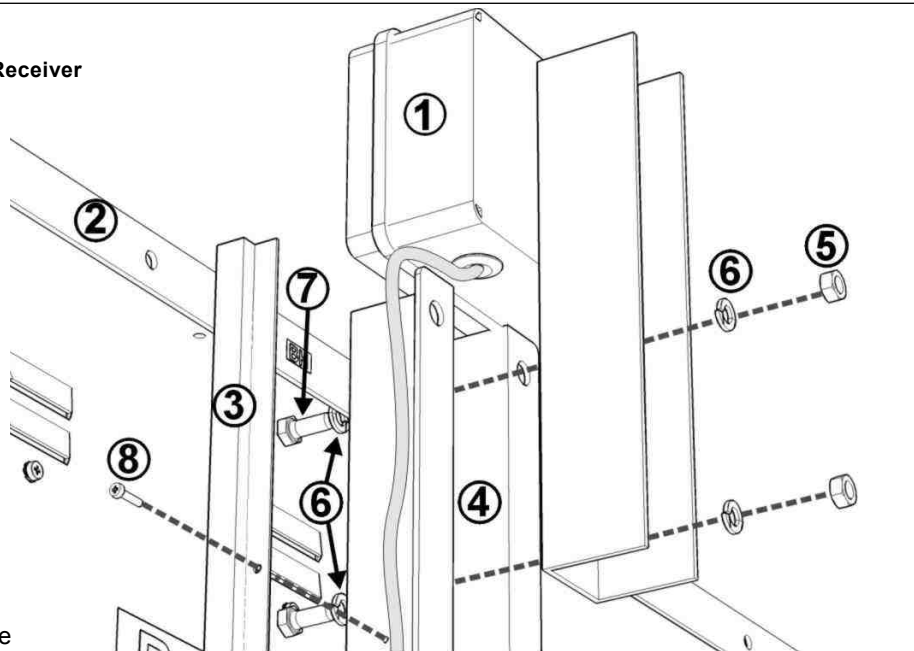

Fig. 3: Detail of mounting procedure
1. From the vertical bracket with 'Ω' profile, located to the right of the scoreboard (rear view), remove the closing nut and washer of the top M8x20 fastening screw (Fig. 3).
2. Align the support bracket of the receiver to the 2 holes on the 'Ω' profile bracket as in Fig. 3, and lock it in place with the M8x20 screws and relative washers and nuts.
3. Fasten the cable entry conduit to allow for the passage of the cable along the 'Ω' profile bracket of the Scoreboard as in Fig. 3.